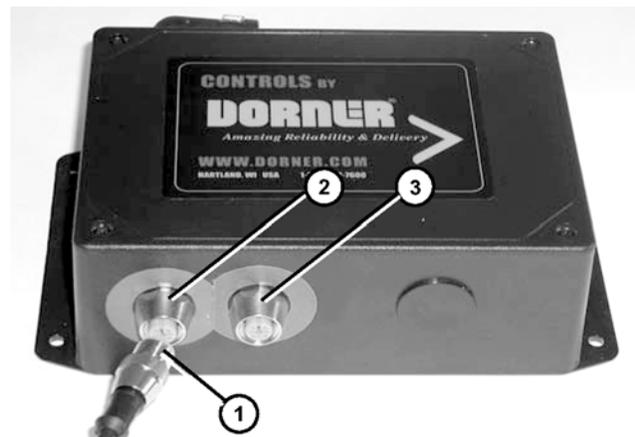
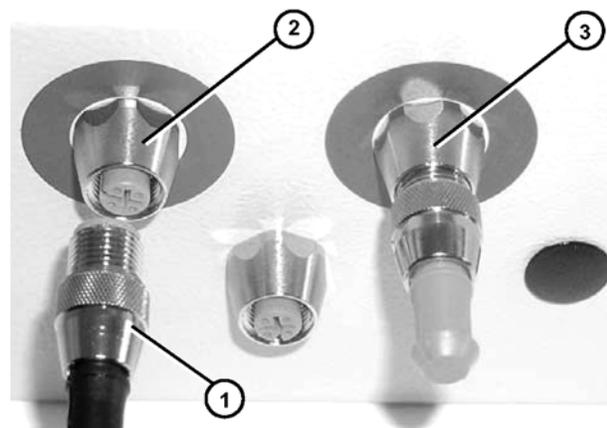

Figure 11
Figure 12
2. Connect opposite end of linking cable kit (Figure 11, item 1) and (Figure 12, item 1) to the blue port (Figure 11, item 2) and (Figure 12, item 2) or green port (Figure 11, item 3) and (Figure 12, item 3) on the controller.